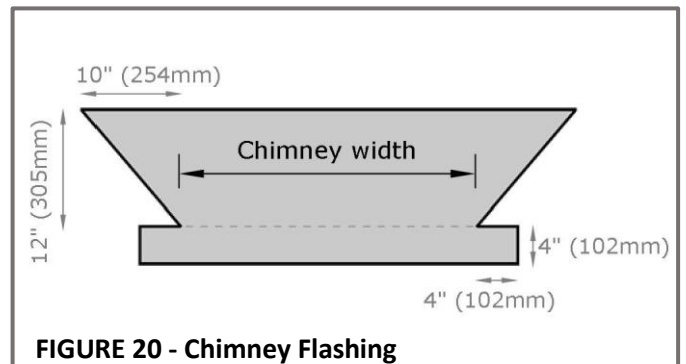

FIGURE 20 - Chimney Flashing
- Install an apron flashing on the front of the chimney. Install step flashing along the sides. For further details see the **VERTICAL WALL FLASHINGS** section. For recommended dimensions, see **Figure 20**.